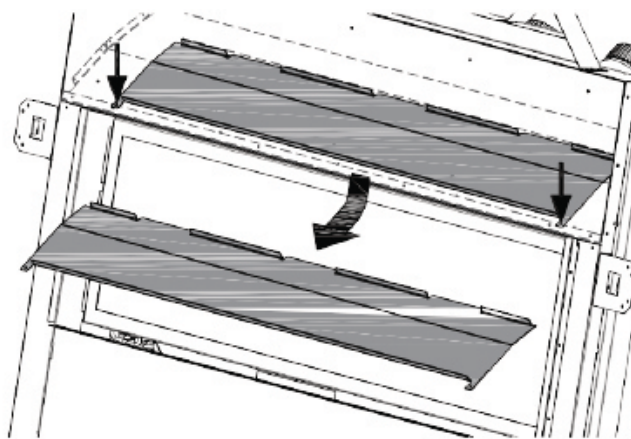

Figure 4.2 - Convection Baffle Removal
3. Locate the convection baffle as shown in Figure 4.2. There are (2) screws that secure the convection baffle behind the upper edge of the fireplace opening. Remove the screws and convection baffle from the fireplace. Discard the convection baffle. See Figure 4.3 for information about airflow.